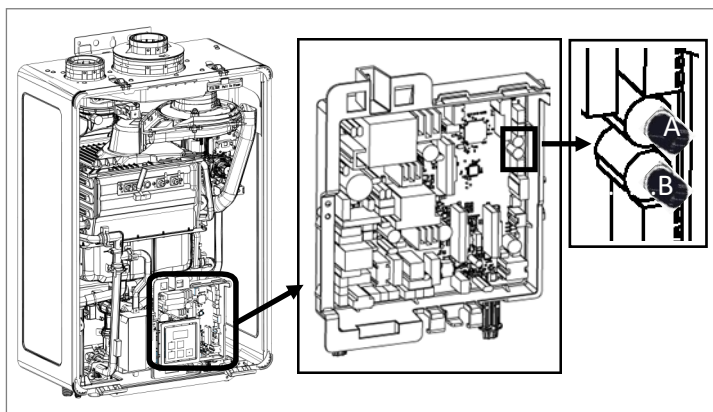

Figure 95
9. Locate the PC Board at lower of unit (Figure 95).